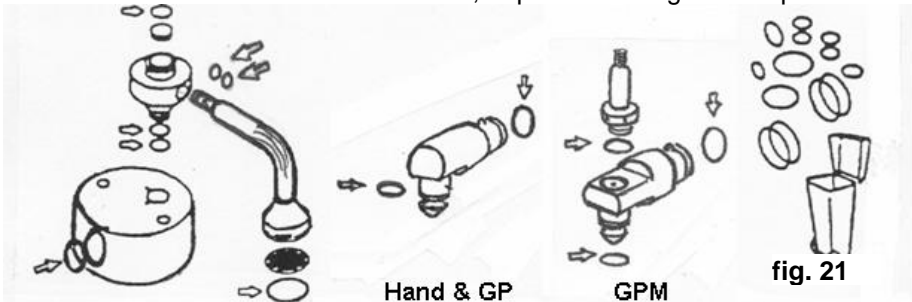

fig. 21
- Remove **all** O-Rings. For O-Rings on the inside, you should use the paperclip. Discard **all** removed O-Rings! (fig. 21)